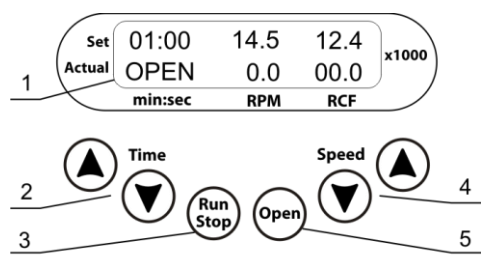

Figure 5. Control panel
- 5.4 Press the **Open** key (fig. 5/1) and open the outer lid by lifting it upwards by hand. The display shows OPEN (see figure 5). The lid can be opened only when the rotor is stopped.
- 5.8 Use the ▲ and ▼ **Time** keys (fig. 5/2) to set the required time interval.
- 5.9 Use the ▲ and ▼ **Speed** keys (fig. 5/4) to set the required speed and required centrifugal force, using the readouts on the display (fig. 5/1). These parameters can also be adjusted during operation.
- 5.10 Press the **Run Stop** key (fig. 5/3) to start centrifugation. Blinking RUN indication and current speed is displayed in the lower line (fig. 7). The timer in the upper line starts countdown after the set speed is achieved (stable RUN indication).
- 5.11 Centrifugation is stopped automatically after the set time elapses (while braking display shows blinking indication STOP (fig. 6). A sound signal is emitted after full stop of the rotor (press the **Run Stop** key to stop the signal, fig. 5/3).
- 8.2.3 For rotor cleaning, If the centrifuge is switched on, press the **Open** key (fig. 5/1) and open the outer lid lifting it upwards with a hand. If the centrifuge is disconnected from the mains, find the emergency opening slot on the right side of the unit. Insert the pin for unblocking the lid (screwed in rear panel of the unit) into the emergency opening slot and press until the lid opens. Remove the rotor lid by lifting the lid holder up. Hold the rotor with one hand and turn a fixation nut counter-clockwise to release the rotor with the help of wrench included in standard set. Release the rotor and clean it. After cleaning install the rotor, secure it carefully turning the rotor fixation nut tightly. Close the rotor lid and the covering lid as described in **5.7**. Unpower the unit, if necessary.